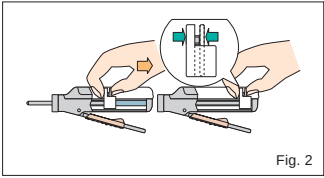

Fig. 2
- a) Make sure that the piston is completely retracted into the dispenser. (Fig. 2)